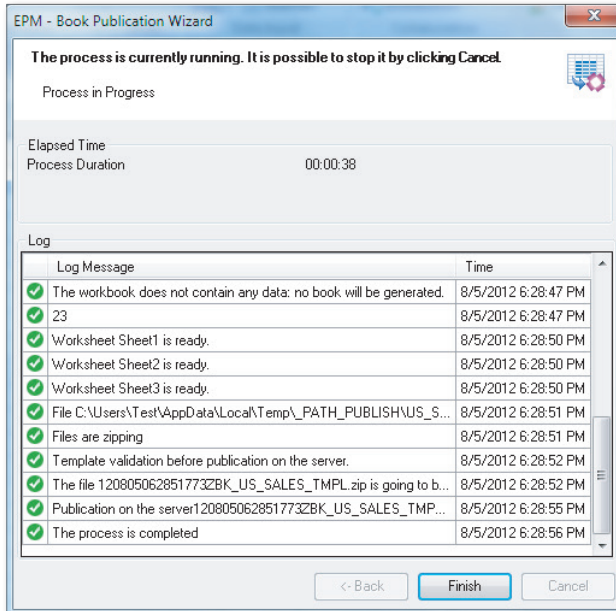

Figure 7.37 Publishing a Book Template—Part F
8. The publication template is executed immediately on the client machine. In this case, the client is the user who is executing the publication template. A message provides details of the publication job executed. Click on FINISH to complete the publication process (Figure 7.37).